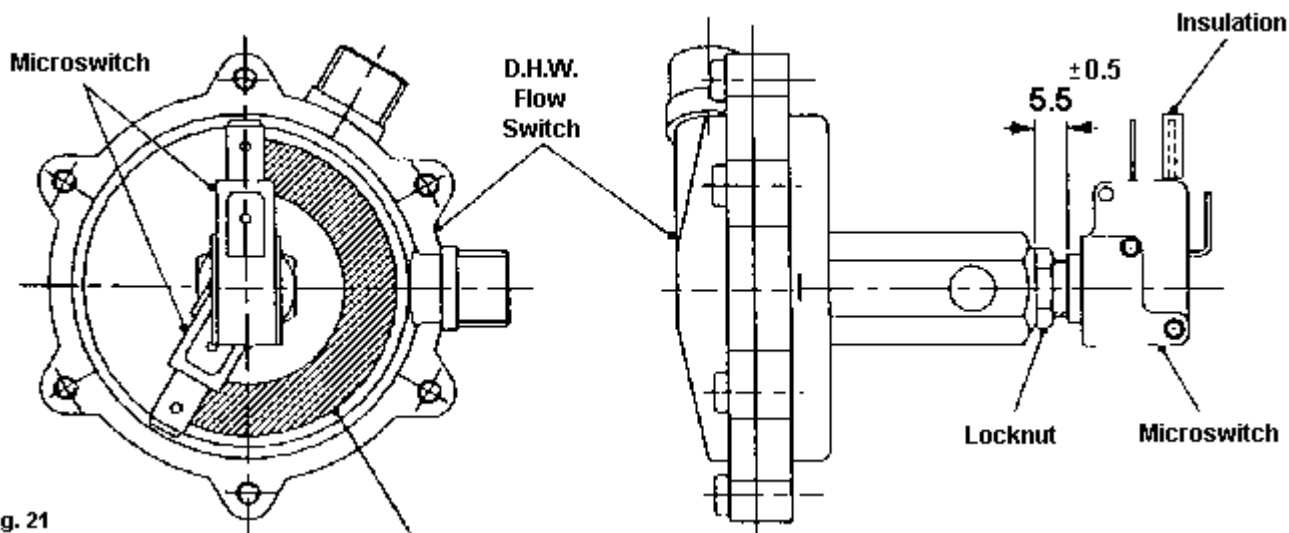

Fig. 21
6. Transfer the micro switch assembly by loosening the locknut and unscrew the switch, refit the micro switch to the new flow switch and position the switch as dimensioned in Fig. 21.
7. Re-assemble in reverse order. Ensure the wires are connected correctly as shown in Fig. 21.
4. Loosen the locknut and remove the switch, fit the new micro switch (with locknut) to the flow switch and position the switch as dimensioned in Fig. 21.
5. Re-assemble in reverse order. Ensure the wires are connected correctly as shown in Fig. 21.